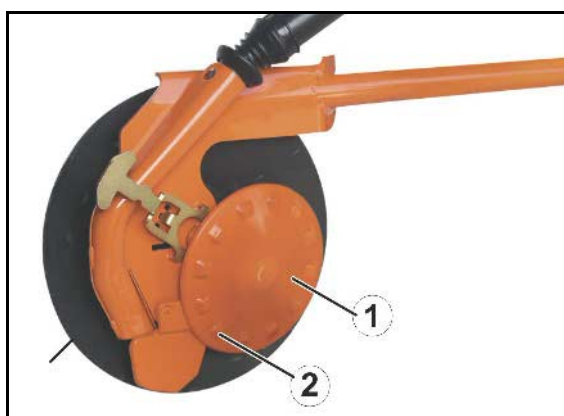

Fig. 29
The AMAZONE RoTeC+ - coulters can be safely used for both mulch and conventional drilling. Seed furrow former made from hard cast alloy. The elastic polyurethane (PU) depth limiting cleaning disc keeps the inner disc surface clean (Fig. 29/1). The naps (Fig. 29/2) provide additional drive.